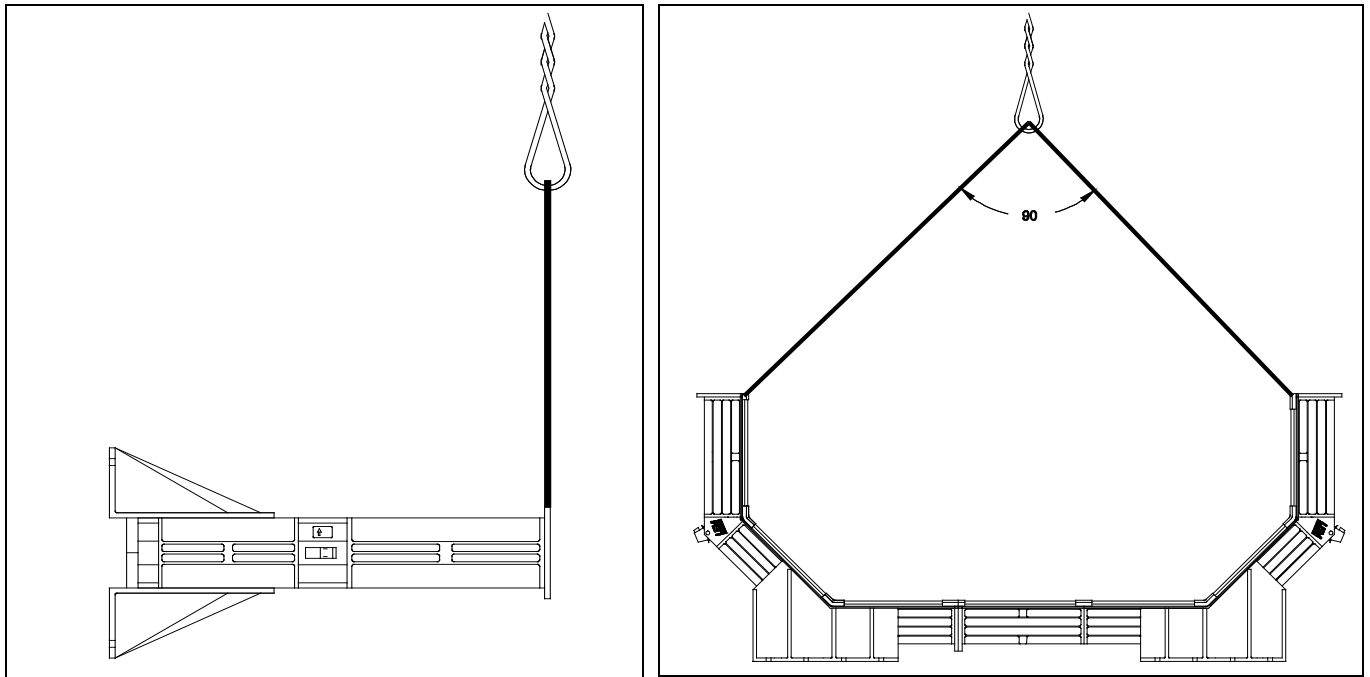

Figure 5.3 Setting The Lower Head Half Upright.
- 3.) To set the lower head half upright, secure the mounting straps under the two fastening flanges as shown in the figure 5.3.